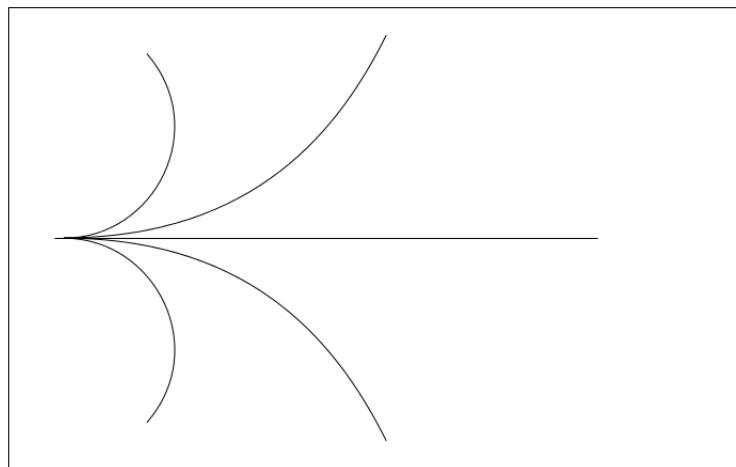

Figure 1: Robot trajectories for estimating the drive system characteristics
2. Program your robot to follow trajectories as indicated in Figure 1. Use three different translational velocities v (excluding zero) and five different rotational velocities ω (including zero and symmetrical ones regarding clockwise/counter-clockwise, example: $20^\circ/s$, $10^\circ/s$, $0^\circ/s$, $-10^\circ/s$, and $-20^\circ/s$). In total, these are $15v, \omega$ combinations, each of which will later be executed 10 times.